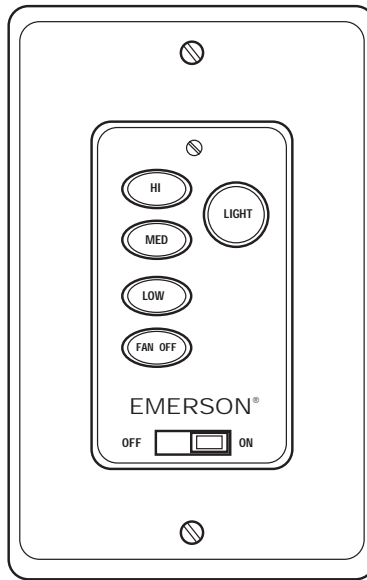

Figure 23
Your Fan/Light Wall Control (Figure 23) has full control of your fan and light. However, airflow direction is controlled by a slide switch on the light fitter.
- 2. To set the desired fan speed, press the HI, MED, or LOW buttons to operate your fan on high, medium, or low speed (Figure 23).